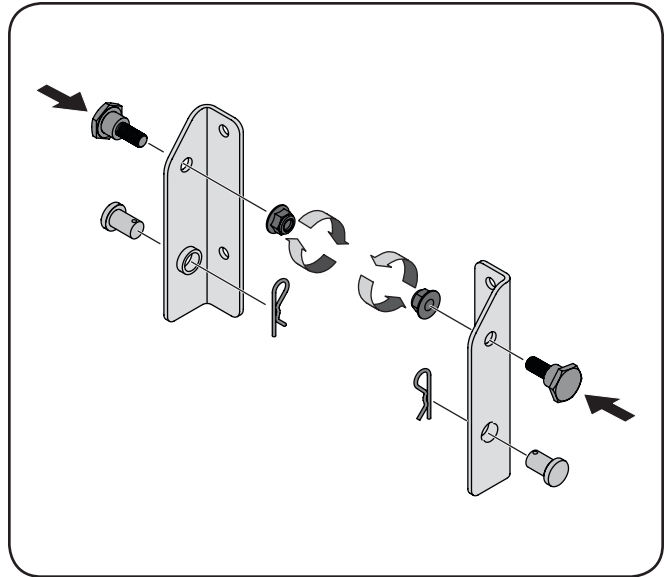

Figure 3-1
1. Install a shoulder bolt from your hardware pack on each bracket, securing them with flange lock nuts also included in the hardware pack. Refer to Fig. 3-1.
2. Insert the clevis pins from your hardware pack on each bracket, securing them with clip pins also included in the hardware pack. Refer to Fig. 3-1